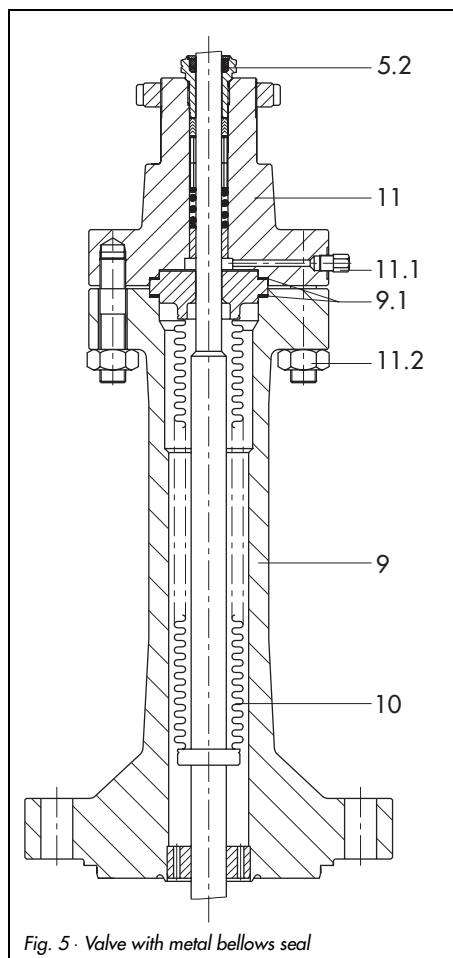

Fig. 5 · Valve with metal bellows seal
- Legend to Fig. 5
The metal bellows (10) can only be replaced as complete bellows seal together with the plug stem. To do this, proceed as described in section 5.1.2 (Fig. 5).